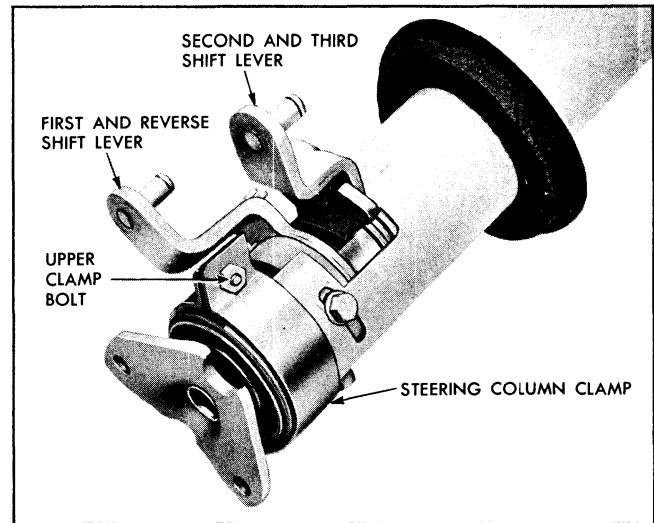

Fig. 9-30 Shifter Lever Identification
17. Connect first and reverse shifter rod to lower lever and second and third shifter rod to upper lever at steering column (Fig. 9-30).